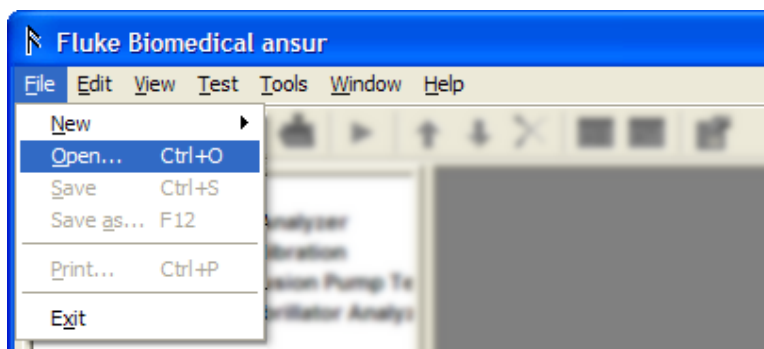

Figure 3-1. Open Dialog Box
1. Click **File** → **Open** on the menu bar or click on the Open Template toolbar button (📁) to open the dialog box shown in Figure 3-1.